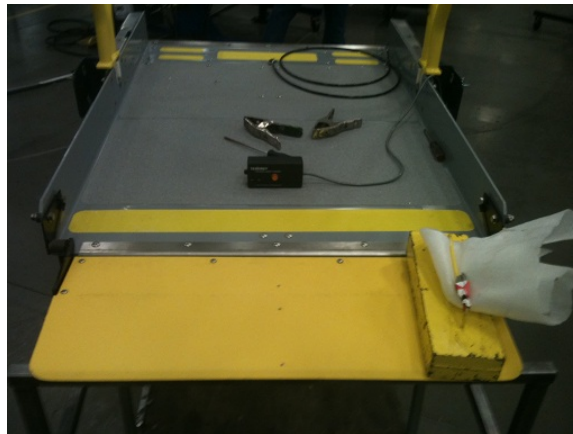

FIGURE 2-9. 25 LB. (11 KG) LOAD TEST (RIGHT SIDE)
- 2) Refer to **Figure 2-9**. Perform Load Test by placing 25 lbs. (11 kg) of weight on the right side of bridgeplate. Verify that the platform does not move when DOWN button is pressed.